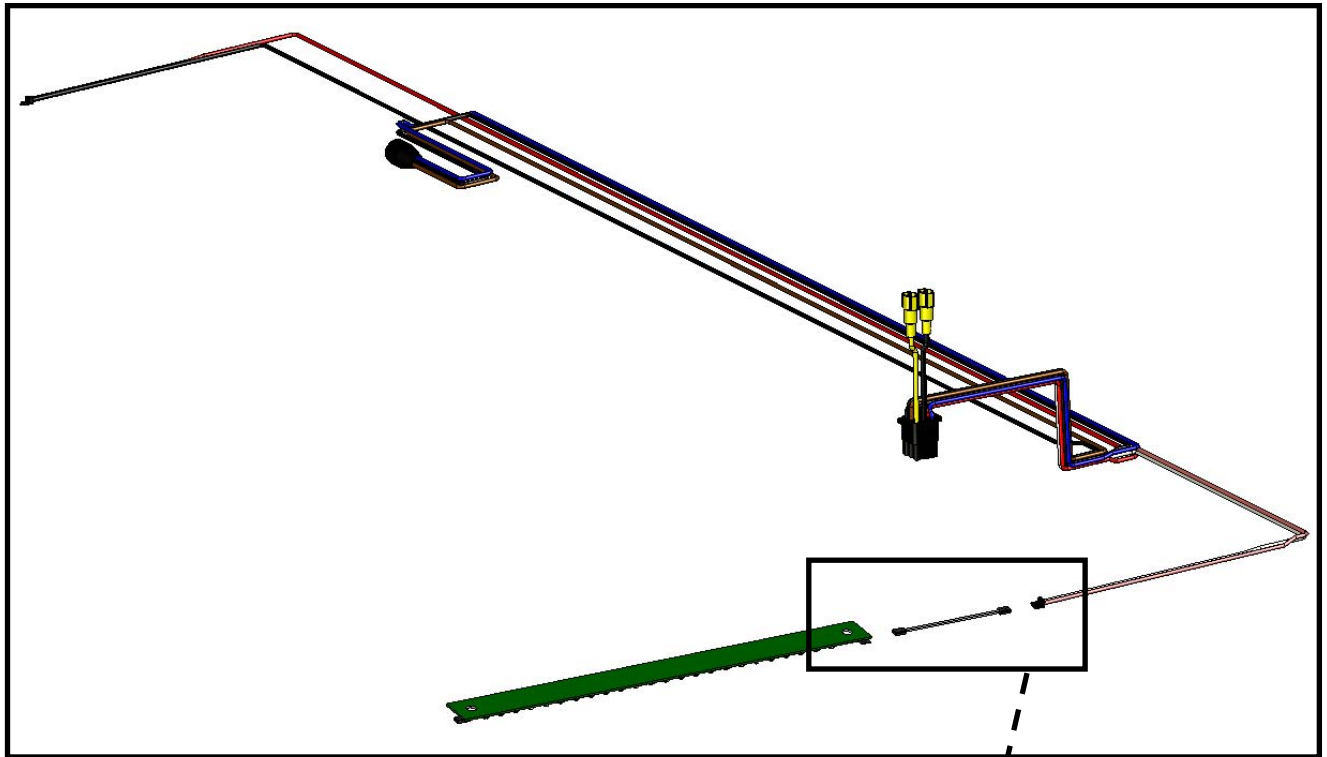

Figure 28
- h) NOTE: If the plugs on the LEDs do not mate up to the harness properly (i.e., male-to-female) then use 48298 light adapter wire harness to connect the LED strip to the end truss harness. See Figures 28 and 29 for detail of connections.